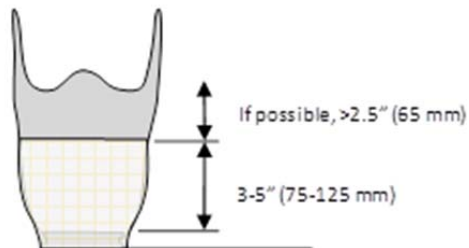

Figure 2
2. If a gap exists between the adapter and the socket, use 50 mm (2") fiberglass casting tape to fill the gap. Continue by **tightly** wrapping the fiberglass casting tape around the adapter 5R2 and distal end of the socket as shown in the drawing. Wrap a minimum of 75–125 mm (3–5") up from the bottom of the socket to secure the adapter to the socket (Figure 2). If possible, leave a